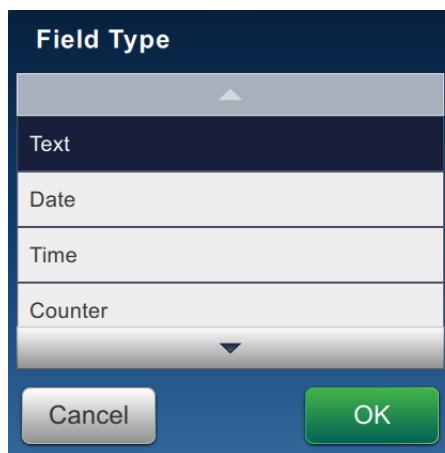

Figure 5-4: Add Field Options
7. Touch the  button and select the required options to add fields as shown in Figure 5-4.
1. Touch the  drop down list and select *Text* as shown in Figure 5-4 on page 5-3.